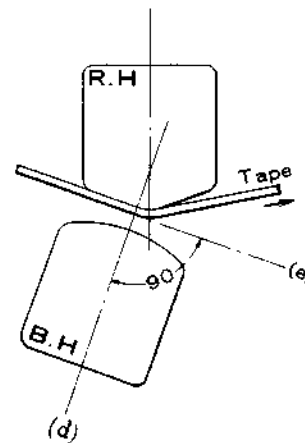

Fig. 3
C. Clearance of the Bias Head (See Fig. 3, 4)